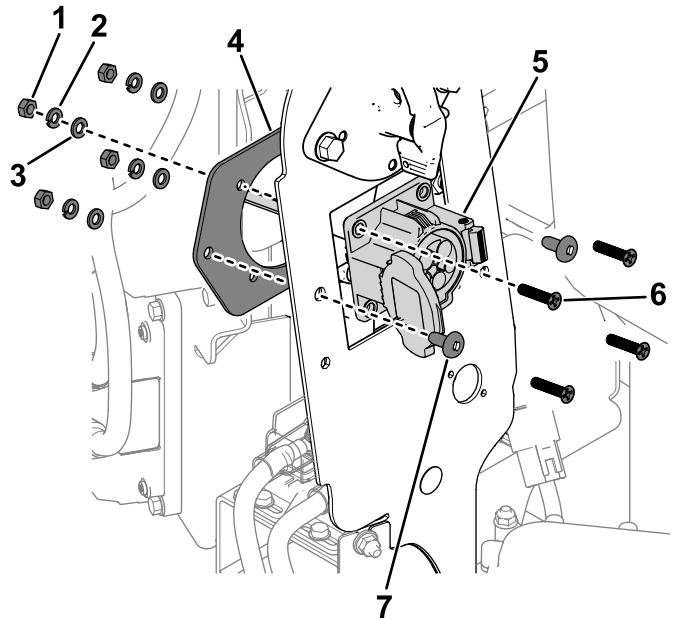

Figure 3
1. Use 2 screws (5/16 inch) and the existing screws, washers, and nuts on the charger connector to secure the connector and connector plate to the frame panel (Figure 3).